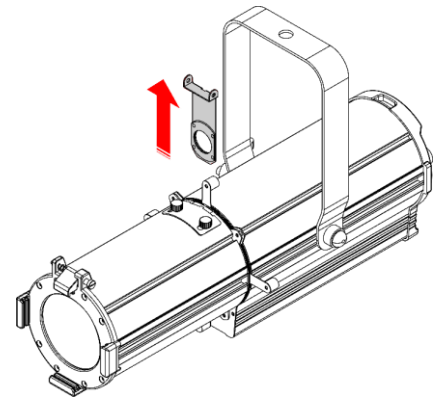

Fig. 17
- 03) Take the **gobo holder (08)** out the of gobo slot (see Fig. 17).